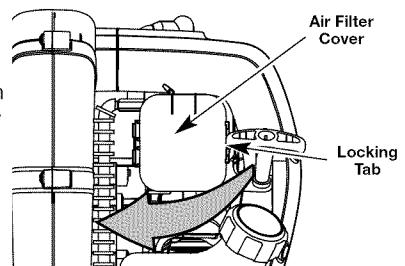

Fig. 15
1. To open the air filter cover, push the locking tab on the right side of the cover inward, then pull the air filter cover out and to the left (Fig. 15).